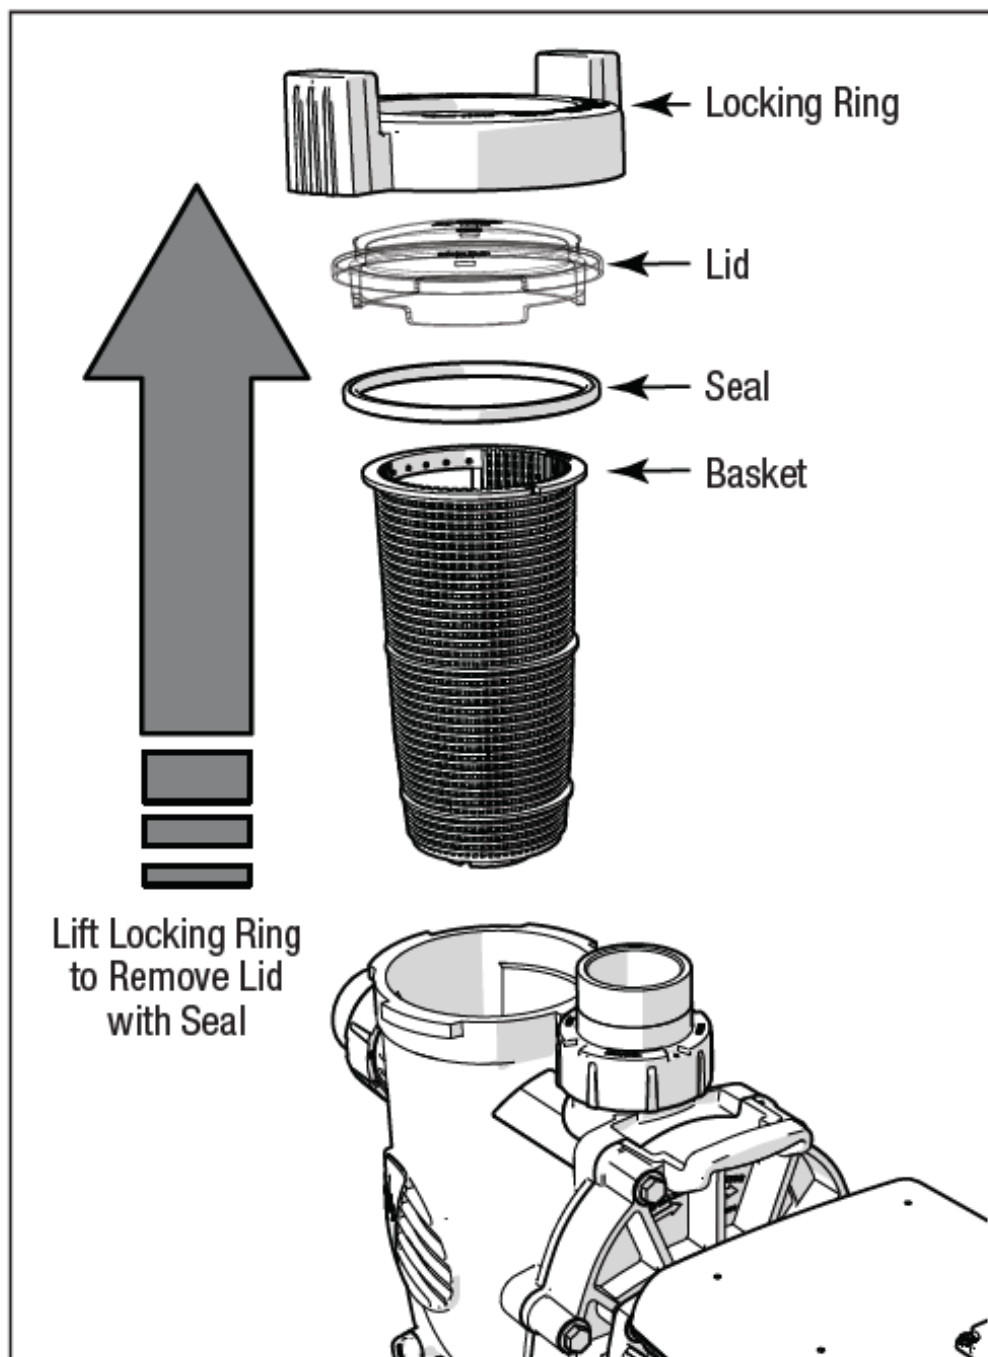

Figure 18. Remove Pump Lid
1. Remove the seal from the lid. See Figure 18.